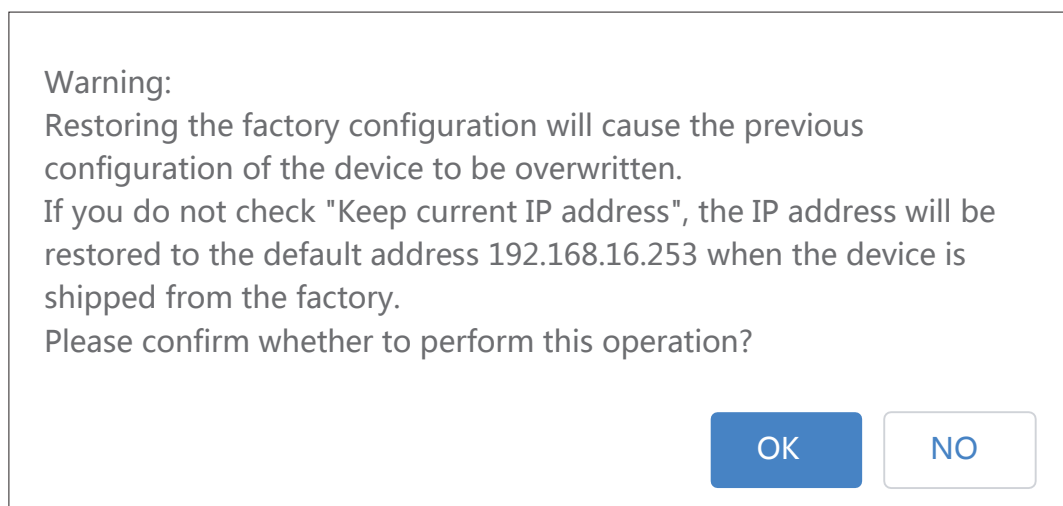

Figure 34 The warning message when the device is restored to factory configuration
- Restore the factory settings of the device: This function is used to restore the Mport serial server to the factory settings and automatically restart the serial server at the same time. Before the serial server restarts successfully, the serial server does not work and cannot forward any data packets. This function is to restore the factory default configuration value once the user sets the wrong parameter and causes the serial port server to work abnormally. There is the option of "Keep the current IP address" on the right. When checked, the current IP address will be retained. If not checked, the IP address will also be restored to the factory default address: 192.168.16.253. Click the "Start" button, and a prompt box will pop up on the page, as shown in Figure 34. Click "OK" to jump to the waiting page. After the progress bar in the page is read, the serial port server is restored to its factory configuration.